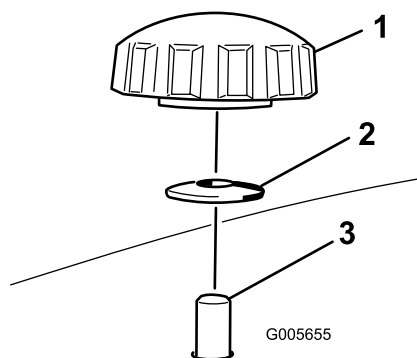
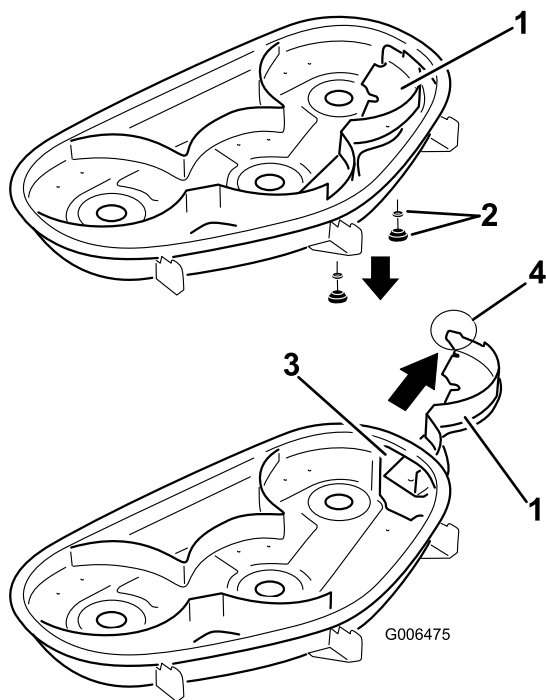

Figure 31
Figure 32
4. Remove the 2 knobs and curved washers that secure the right baffle to the mower as shown in Figure 31.
5. Remove the right baffle and lower the grass deflector over the discharge opening as shown in Figure 32 and Figure 31.
5. Slide the right baffle under the mower deck and secure it using 2 knobs and curved washers (cupped side facing the mower) as shown in Figure 31 and Figure 32.